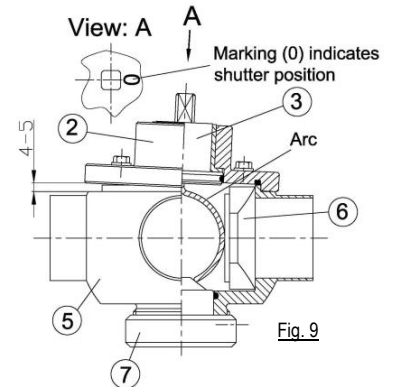

Fig. 9
- Insert bearing bush (9) into bearing cap (2).
- Insert O-rings (4), (8) and (10).
- Assemble pivoted axle with arc (3) and bearing cap (2). Pay attention to the marking (0) on the square pin of the pivoted axle (3) → indicates the shutter position (6) (see Figure 9).
- Insert shutter (6) into valve casing (5).
- Fit the pivoted axle with the arc (3) together with bearing cap (2) to the valve casing (5) as follows:
- The pivoted axle with arc (3) is designed that it exerts a defined pressure on the shutter (6) during assembly. On account of the preload characteristics, the bearing cap (2) declines approx. 0.16-0.20in (4-5mm) off the valve casing (5) on the opposite side of the shutter (see Figure 9).
- Fasten the handle (1) in the desired position.